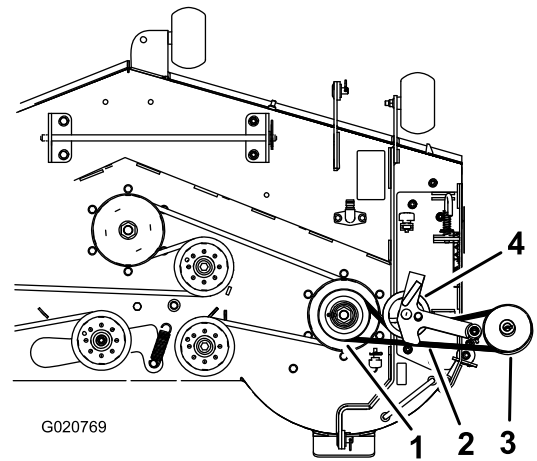
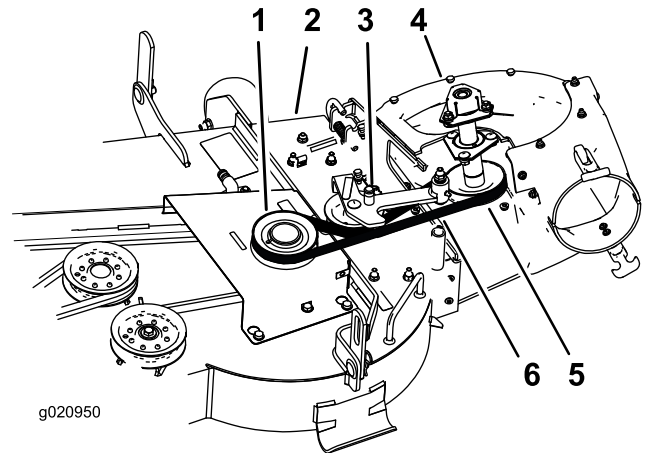

Figure 17
Figure 18
1. If necessary, install the belt onto the blower pulley (Figure 18).
1. If needed, install the belt around the blower pulley (Figure 17 and Figure 18). Refer to 5 Installing the Blower Assembly (page 12).
3. Route the belt around the drive pulley as illustrated in Figure 17 and Figure 18.
4. Temporarily route the belt beneath the idler pulley (Figure 18).
7. Pull the spring loaded idler pulley away from the fixed spring post, and route the belt around the mower deck pulley (Figure 18).